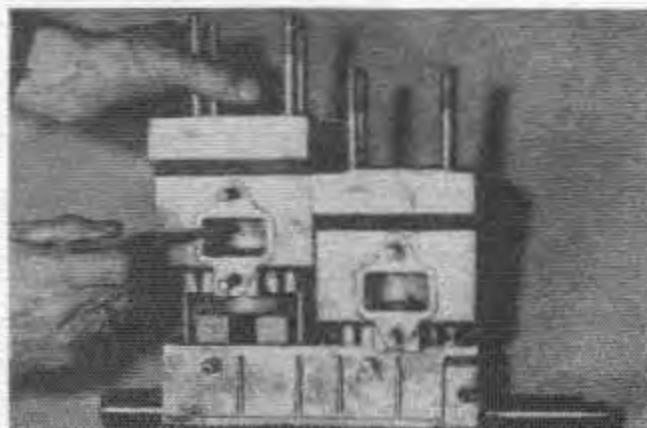

Fig. 17 — Positioning Rings to Clear Intake Port
d. Use a pointed soft object, such as a lead pencil and work through intake port of cylinder to push end of ring in to clear intake port, Fig. 17.